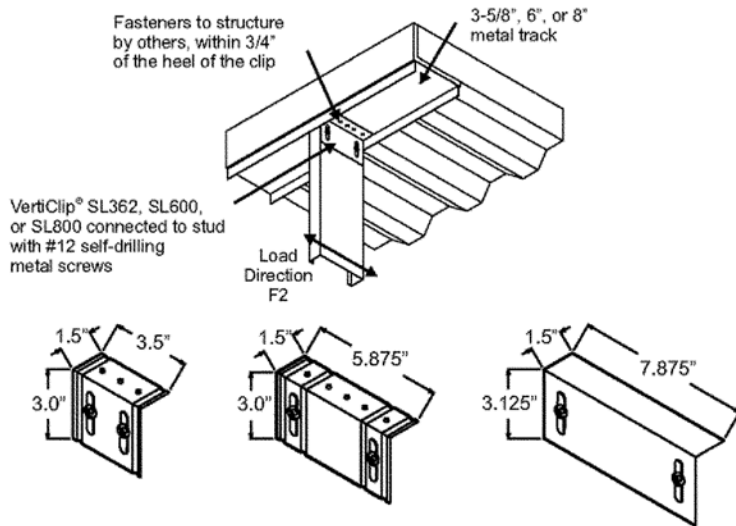

FIGURE 1 - VERTICLIP SL362, SL600, and SL800
3.1.2 VertiClip® SL: VertiClip SL362, 600 and 800 are L-shaped angles that connect 3⁵/₈-, 6- and 8-inch-deep (92, 152, and 203 mm) exterior curtain wall steel studs, respectively, at head of wall to the building's structural frame while allowing for a maximum of 1³/₈ inches (35 mm) for the VertiClip SL362 and 1¹/₂ inches (38.1 mm) for the VertiClip SL600 and SL800 of vertical movement between exterior wall elements and the primary structure. The minimum base-metal thickness of the clips is 0.0677 inch (1.7 mm). The long leg of the VertiClip SL362 connector, which is fastened to the curtain wall stud, has two vertical slots, each 3³/₈ inch (9.5 mm) wide by 1³/₄ inches (44.5 mm) long. The long leg of the VertiClip SL600 and SL800 connectors has two or three vertical slots, each 3³/₈ inch (9.5 mm) wide by 1⁷/₈ inches (47.6 mm) long. Refer to Figure 1 for overall dimensions of each VertiClip SL connector and a typical installation detail.
Table 1 of this report presents the following design information: (1) The calculated safety factor, Ω , and resistance factor, ϕ , as derived in accordance with the AISI (2001) North American Specification for the Design of Cold-formed Steel Structural Members, including the 2004 Supplement (AISI-NAS); (2) the average test load at 1/8-inch (3.2 mm) deflection service limit; (3) the Allowable Strength Design (ASD) loads for the VertiClip products described in this report; and (4) the Load and Resistance Factor Design (LRFD) design strength for the VertiClip products described in this report. Refer to Figures 1 through 5 for the direction of load listed in Table 1.
¹Refer to Figures 1 through 5 for direction of load.